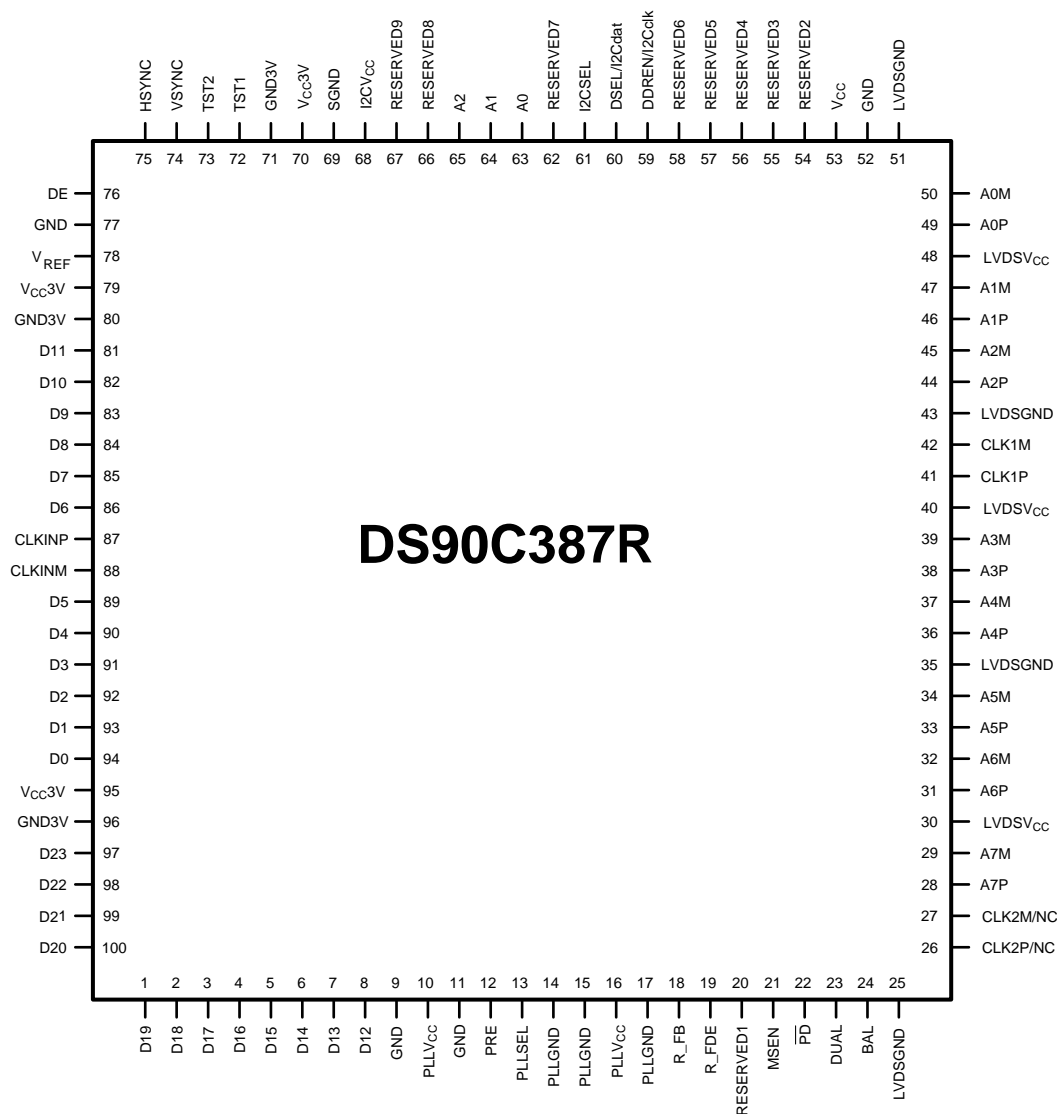

Figure 21. Transmitter-DS90C387R
- Corrected the pin names in Figure 21 ..... 25